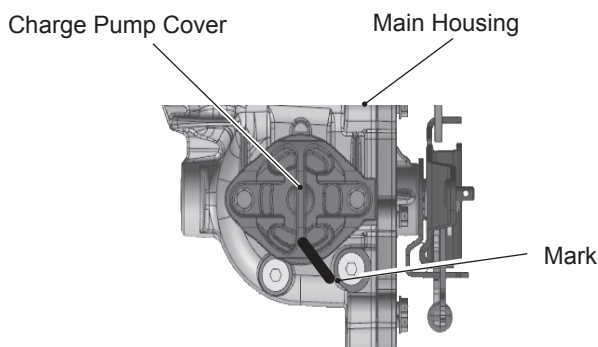

Figure 17, Charge Pump Cover Orientation
Refer to Figures 17, 18
1. Mark the orientation of the charge pump cover relative to the main housing, prior to removal. Refer to figure 17.
2. Remove the hex head screws (134), charge pump cover, gerotor assembly, and the O-ring (132). Remove the connecting tubes (130) at this point – *only if the center section will be removed*. A pick type tool can be used to remove the connection tubes.